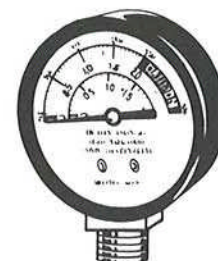

Fig. 4
2. PRESSURE GAUGE, PART NO. 72S. (See Fig. 4) Do not immerse the pressure gauge in water when cleaning the unit. The